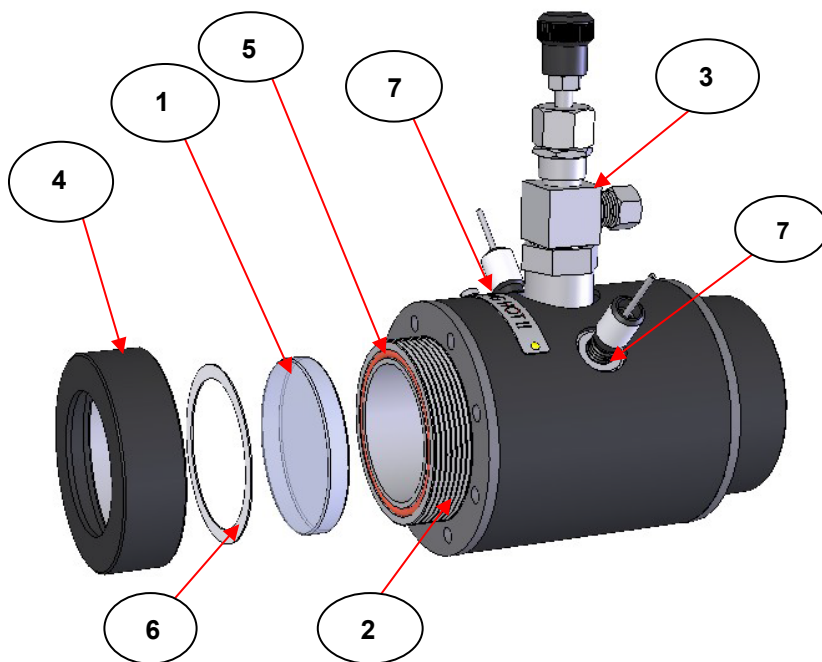

Fig 3. Sequence of Silicone O-Ring, PTFE Gasket and Window Fitting in Storm™ 10H Heated Gas Cell
A pair of windows (1) for the Storm™ 10H Heated Gas Cell are fitted into position as seen from **Fig 3**.
For this build configuration of the Storm 10H Heated Gas Cell it is constructed as seen at **Figs 3, 4 and 11**.